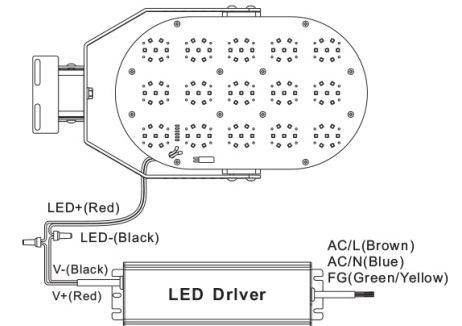

Fig. 4
- Mount driver into fixture and connect wiring (Fig. 4).